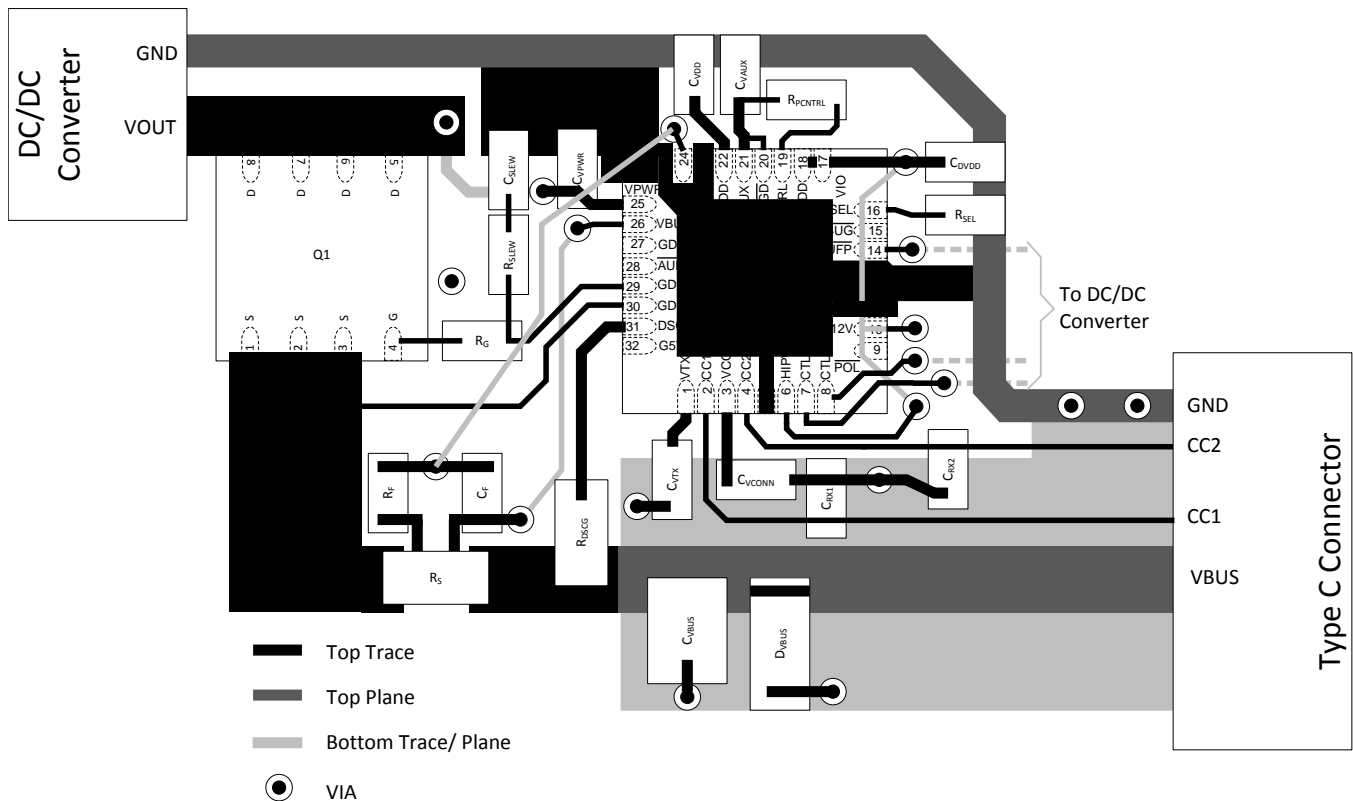

Figure 74. Layout Example
- C_{VPWR} : Place close to pin 25 (VPWR) and connect with low inductance traces and vias according to Figure 74.
- C_{VDD} : Place close to pin 22 (VDD) and connect with low inductance traces and vias according to Figure 74.
- C_{VCONN} : Place close to pin 3 (VDD) and connect with low inductance traces and vias according to Figure 74.
- C_{DVDD} : Place close to pin 18 (DVDD) and connect with low inductance traces and vias according to Figure 74.
- C_{VIO} : Place close to pin 17 (VDD) and connect with low inductance traces and vias according to Figure 74.
- C_{VAUX} : Place close to pin 21 (VAUX) and connect with low inductance traces and vias according to Figure 74.
- C_{VTX} : Place close to pin 1 (VTX) and connect with low inductance traces and vias according to Figure 74.
- R_S : Place R_S as shown in Figure 74 to facilitate uninterrupted power flow to the Type C connector. Orient R_S for optimal Kelvin sense connection/routing back to the TPS25741 or TPS25741A. In high current applications
- R_G : Place R_G near Q_1 as shown in Figure 74. Minimize stray leakage paths as the GDNG sourcing current could be affected.
- R_{SLEW}/C_{SLEW} : Place R_{SLEW} and C_{SLEW} near RG as shown in Figure 74.
- R_F/C_F : When required, place R_F and C_F as shown in Figure 74 to facilitate the Kelvin sense connection back to the device.
The basic component placement and layout is provided in Figure 74. This layout represents the circuit shown in Figure 41. The layout for other power configurations will vary slightly from that shown below.